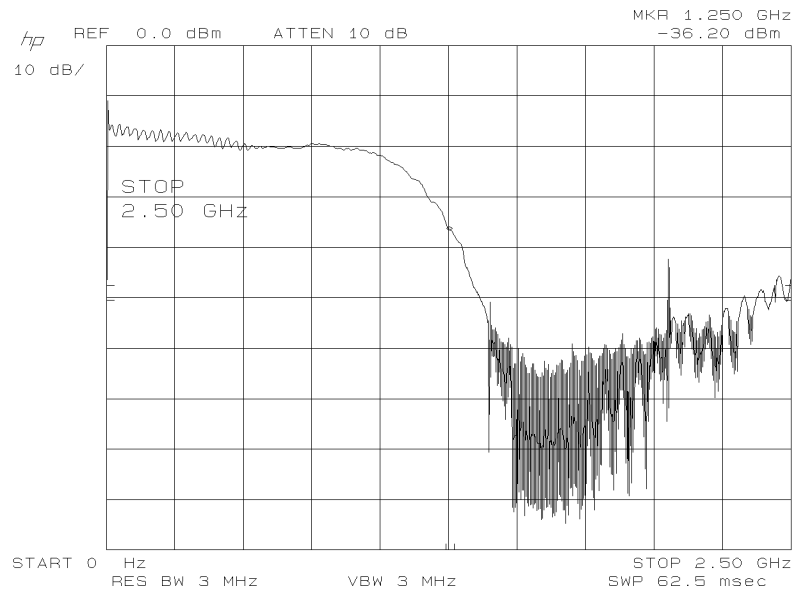

Figure 3-10. RF to IF Conversion Loss Measurement Results
4. View the display of the mixer's output level versus frequency. Refer to Figure 3-10 for an example of the measurement results.